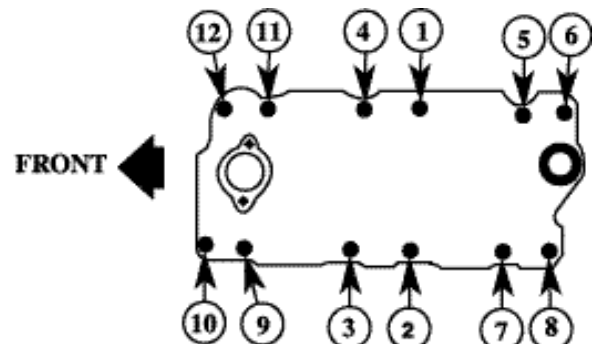

Figure 2—Intake manifold tightening sequence
1. Install baseplate on engine and replace all connections. See Figure 2 for proper bolt tightening sequence and torque all circled bolts to 25 ft./lbs. When installing the baseplate onto the engine, apply silicone sealer to the threads of the four center-bolts. This will prevent oil leaks, as these bolts go into the lifter valley. Note: on 1990 & later engines only two of the three pipe threaded holes on the front of the baseplate are used. Plug the extra hole with a pipe plug. For engines with iron heads, attach the included block-off plate (with included screws) to the remote EGR pad on right rear side of baseplate. Use high temp RTV to seal.
Torque all bolts circled in Figure 3 to 25 ft./lbs. See Figure 2 for proper sequence.